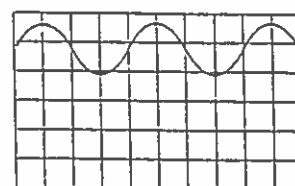

Figure 10
- ④ Set  $U_{mod}$ , the center knob on the Control Unit, to zero, then slowly vary  $U_0$ , the left knob, from 0 to 10 V and observe the trace on the oscilloscope. It should be a clean, straight line, showing that the DC component of the current to the Helmholtz coils is constant. ( $U_0$  controls the DC current going to the Helmholtz coils)
- ⑤ Set  $U_0$  at approximately midscale, then turn  $U_{mod}$  clockwise, to increase the AC component of the current to the Helmholtz coils. The trace on the oscilloscope should now show a smooth sine wave, as in Figure 10, corresponding to an AC magnetic field that is superimposed upon a constant DC field.